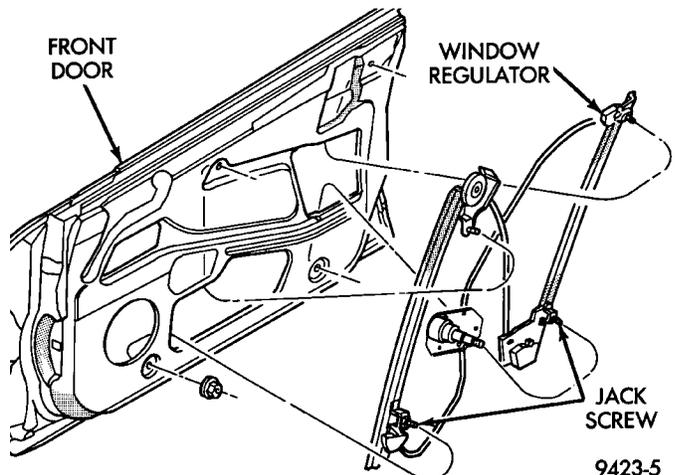
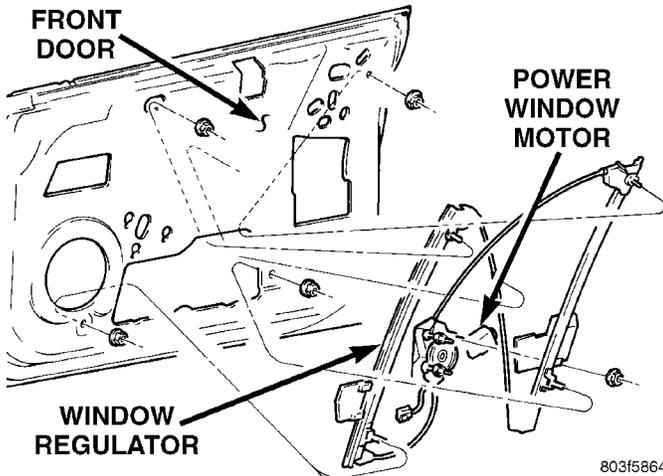

Fig. 22 Front Door Manual Window Regulator
Fig. 23 Front Door Power Window Regulator
- (1) Remove door trim panel and water shield.
- (2) Remove door glass.
- (3) Disconnect wire connector to power window motor, if so equipped.
- (4) Remove nuts holding top of regulator to inner door panel.
- (5) Remove nuts holding bottom of regulator to door panel (Fig. 22) and (Fig. 23).
- (6) Loosen bolts holding regulator crank/motor to door panel.
- (7) Disengage bolts from key hole slots in door panel.
- (8) Remove window regulator from access hole in door panel.
- (9) Remove power window motor from regulator, if so equipped. Refer to Group 8S for Power Window Motor procedures.